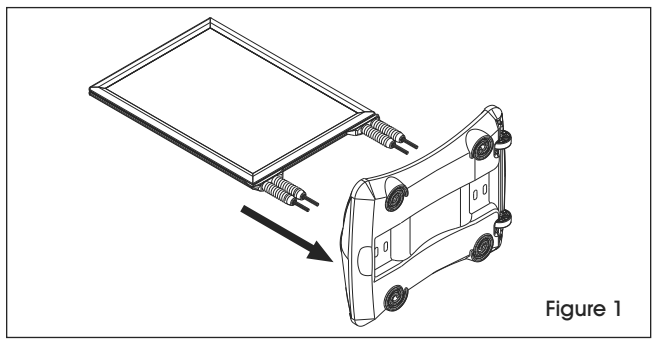

Figure 1
1. Insert screws on bottom of frame through top of base. (See Figure 1)